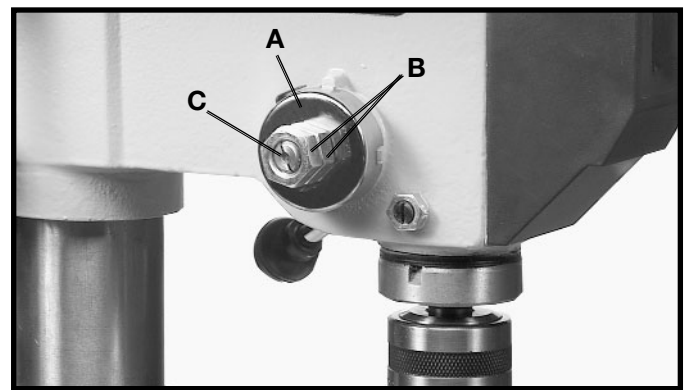

Fig. 32
2. Loosen the two nuts (B) Fig. 32, approximately 1/4". Do not remove nuts (B) from shaft (C).